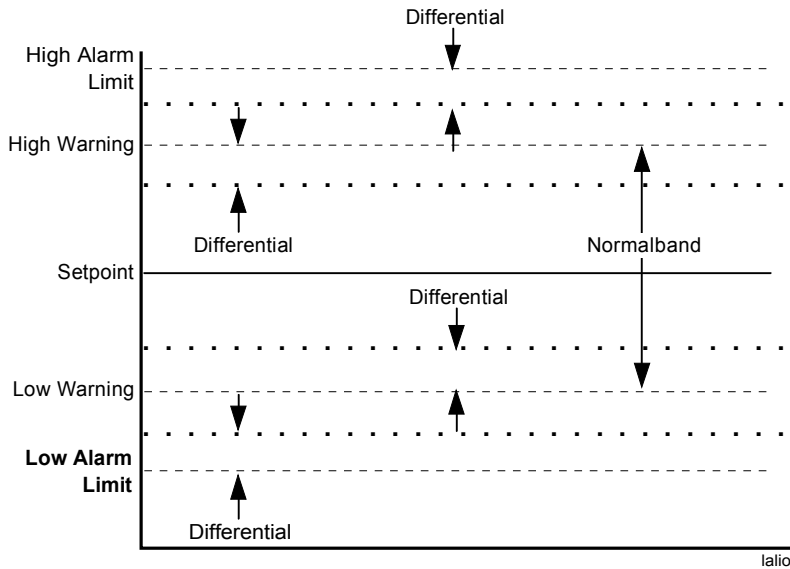

Figure 109: Low Alarm Limit for AI Object
**Low Alarm Limit** Optional parameter that determines when an alarm for an AI object is generated. If the current value of the AI object is lower than the Low Alarm Limit, an alarm will be generated (Figure 109). Once the value increases above the Low Alarm Limit and the Differential, the alarm clears. Range: any positive real number or blank (not defined).